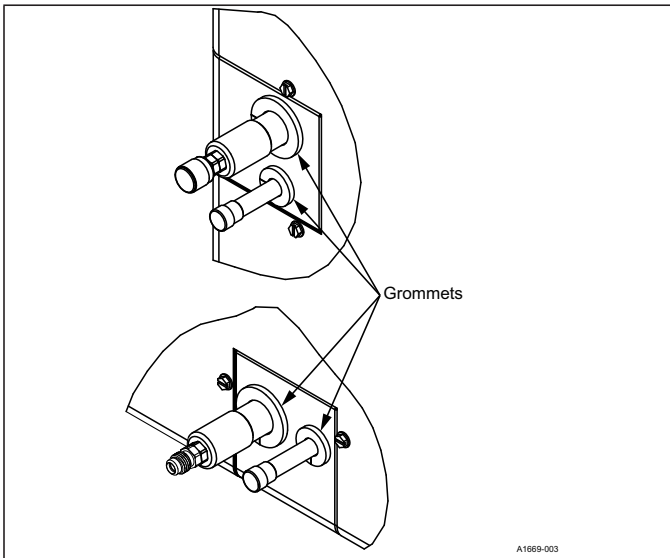

Figure 14: Grommets
2. Remove the grommets where the tubes exit the cabinet to prevent burning them during brazing. In some units, the grommets may be shipped as loose parts with the unit. See **Figure 14**.
12. Re-attach the grommets to the lines carefully to prevent air leakage. In some units, the grommets may be shipped as loose parts with the unit. See **Figure 14**.